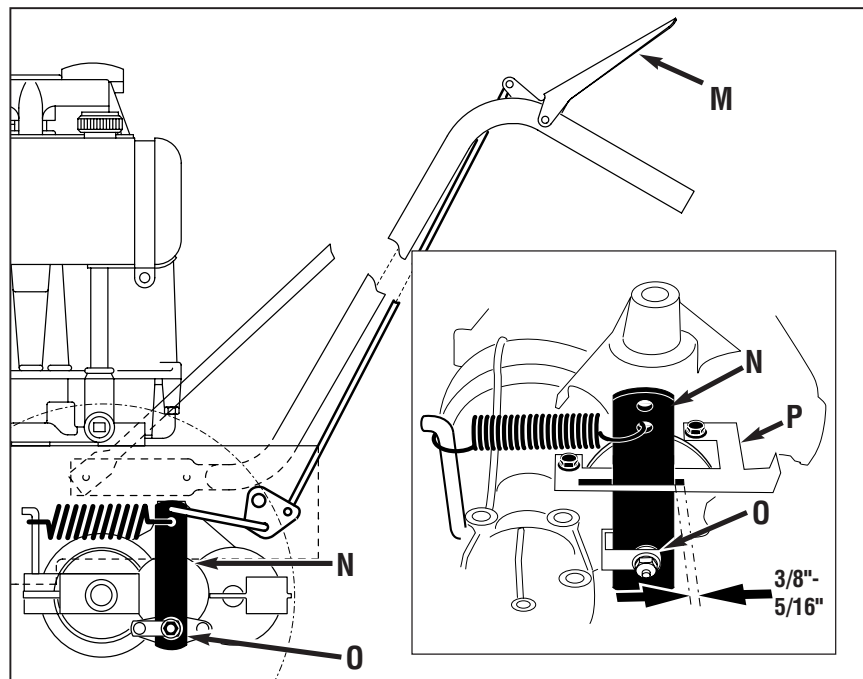

Figure 5-13: Wheel brake adjustment.
2. Disengage (release) the Operator Presence Control (M, Figure 5-13).
3. Hold down Operator Presence Control (M, Figure 5-13) and push unit forward and backward. Unit should move freely. If not, continue with Step 4.